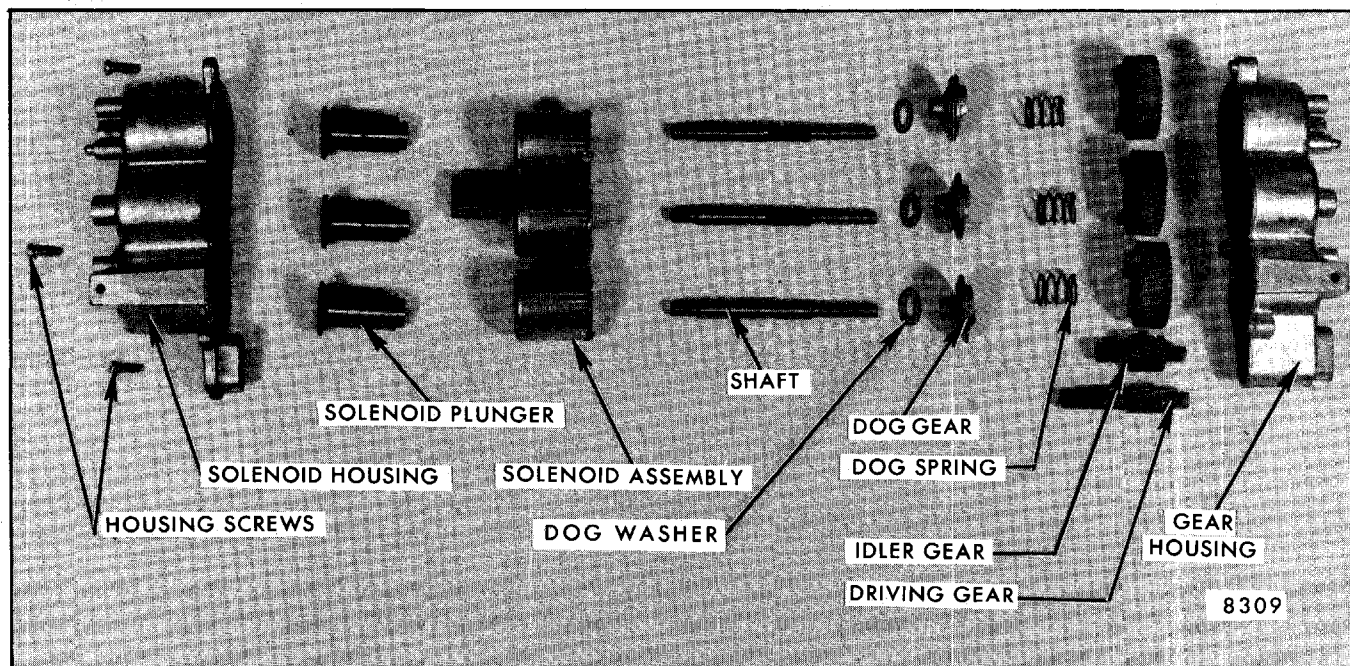

Fig. 9-26-Six-Way Seat Adjuster Transmission Component Parts for 60-40, 50-50, 45-55 and Bucket Seats
2. Remove screws securing rear gear housing to the solenoid housing; then carefully separate housings and remove component parts of transmission assembly (Fig. 9-26 or 9-27).